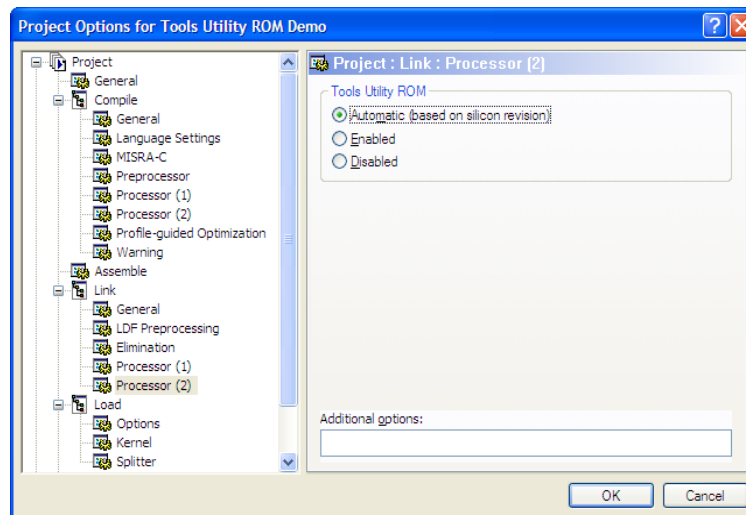

Figure 1. Screenshot of the Link -> Processor (2) Project Options page
Figure 1 shows the Link -> Processor (2) page.